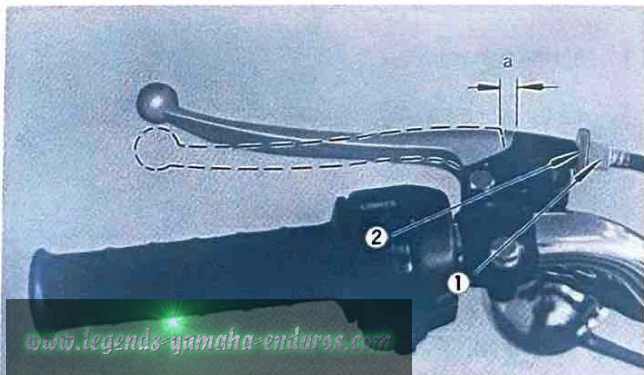

Fig. 54
6. Clutch wire adjustment (Fig. 54)